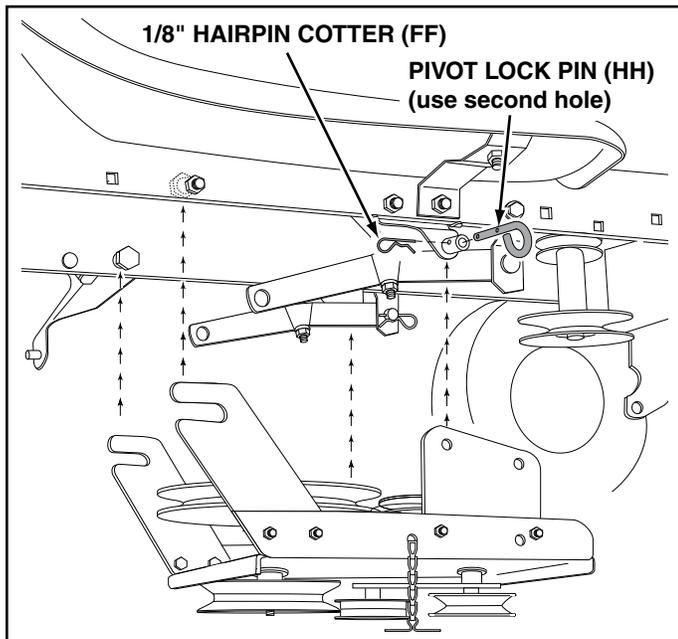

FIGURE 45
STEP 46: (SEE FIGURE 45)
- Attach the clutch/idler assembly to the tractor frame as follows. Hook the assembly's notched arms onto the two shoulder bolts you assembled to the inside of the tractor frame. Lift the front of the assembly and attach it to the R.H. and L.H. hanger brackets using two pivot lock pins (HH) and 1/8" hairpin cotters (FF).